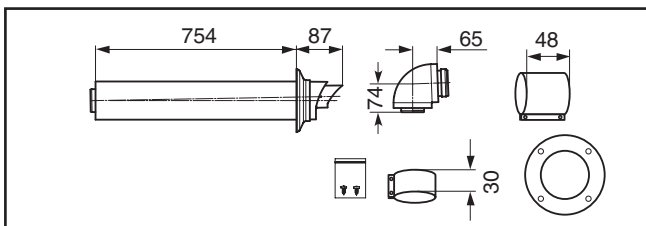

Fig. 3.1 Art. No. 303933
- 60/100 standard horizontal air/flue duct, see fig 3.1.